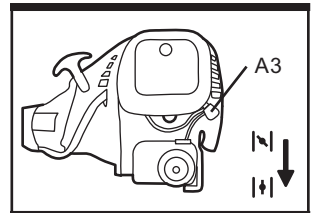

Fig. 13d
- c). Move the choke lever (A3) to the position **II**. Do not press the primer. (See Fig. 13d)